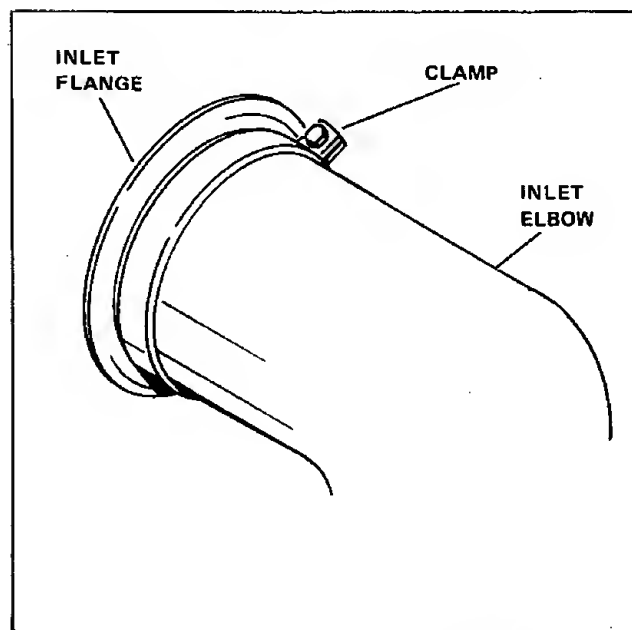

Figure 16. Assembling Inlet Elbow
6. Insert the inlet flange into the long end of the inlet elbow, and hold the flange tight in the inlet elbow with a clamp and screw. (See figure 16.)